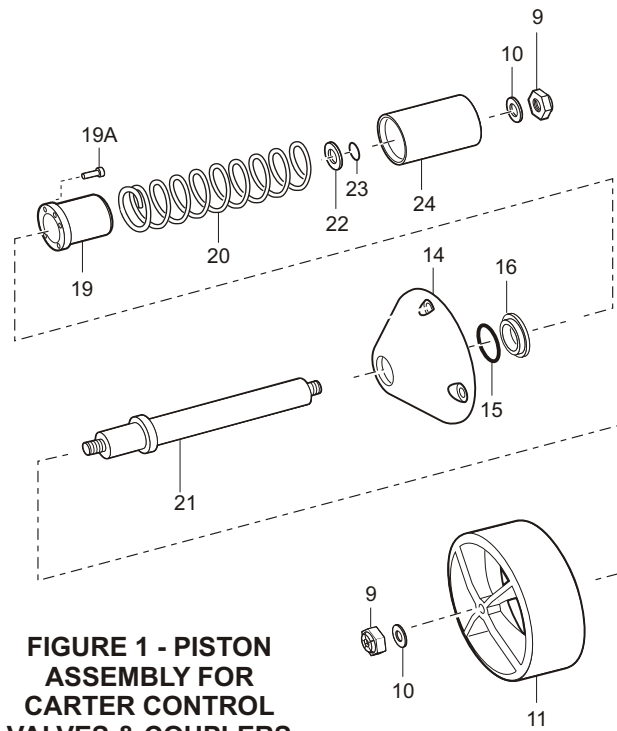

FIGURE 1 - PISTON ASSEMBLY FOR CARTER CONTROL VALVES & COUPLERS
On units with serial numbers listed above and prior ones, if only the seal requires replacing check with Carter to determine if it is available. If so it can be replaced otherwise, replace items 9, 10, 11A or 11B, 12A or 12B, 13, 14 & 17-22 in Figure 1 initially with the appropriate kit shown above. Once this has been accomplished and on subsequent overhauls refer to Figure 1 for parts identification.
Figure 1 applies to both 3 & 4" units. The table below will differentiate the differences in part numbers due to size.